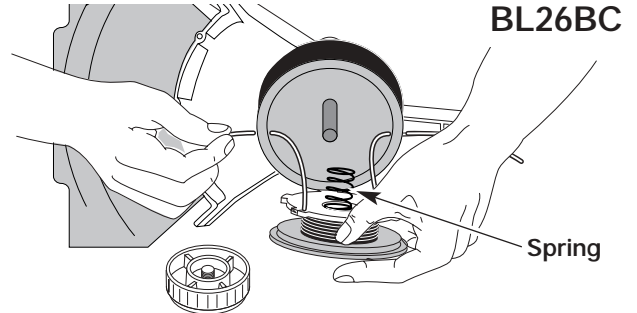

Fig. 44
- Insert the ends of the line through the eyelets in the outer spool and place inner reel with spring inside the outer spool (Fig. 44 or 45). Push the inner reel and outer spool together. While holding the inner reel and outer spool, grasp the ends and pull firmly to release the line from the holding slots in the reel.
- Insert the ends of the line through the eyelets in the outer spool (Fig. 44 or 45).